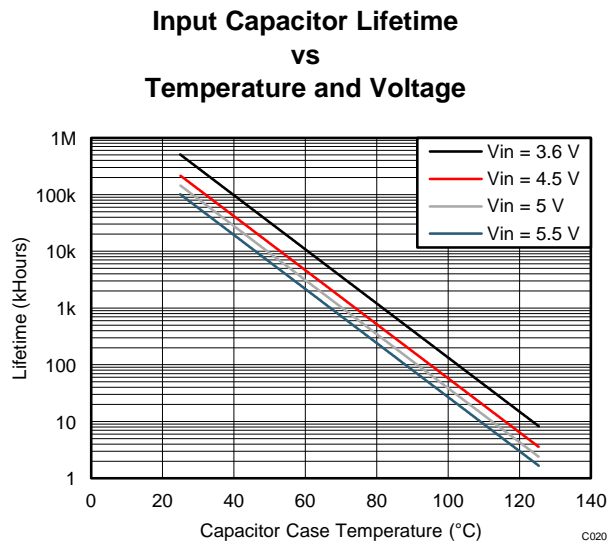
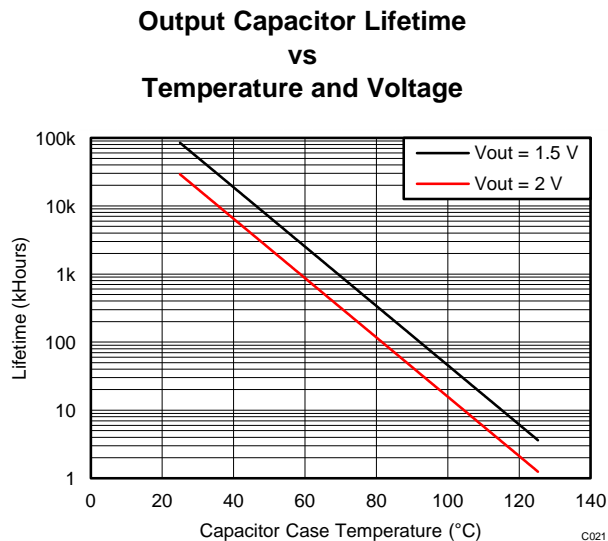

Figure 32. Input Capacitor Lifetime
Figure 33. Output Capacitor Lifetime
Failures caused by systematic degradation are described by the Arrhenius model. The most critical parameter (IR) is the Insulation Resistance (i.e. leakage current). The drop of IR below a lower limit (e.g. 1 MΩ) is used as the failure criterion. See Figure 32 and Figure 33. Note that the wear-out mechanisms occurring in the MLCC capacitors are not reversible but cumulative over time.